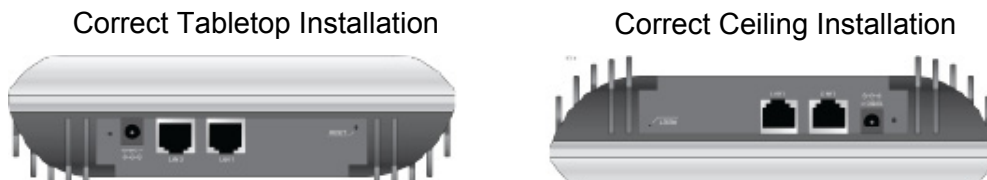

Figure 7. Correct Ceiling or Tabletop Installation
- ❑ The AT-MWS2533AP access point can be installed on a ceiling or tabletop. See Figure 7.